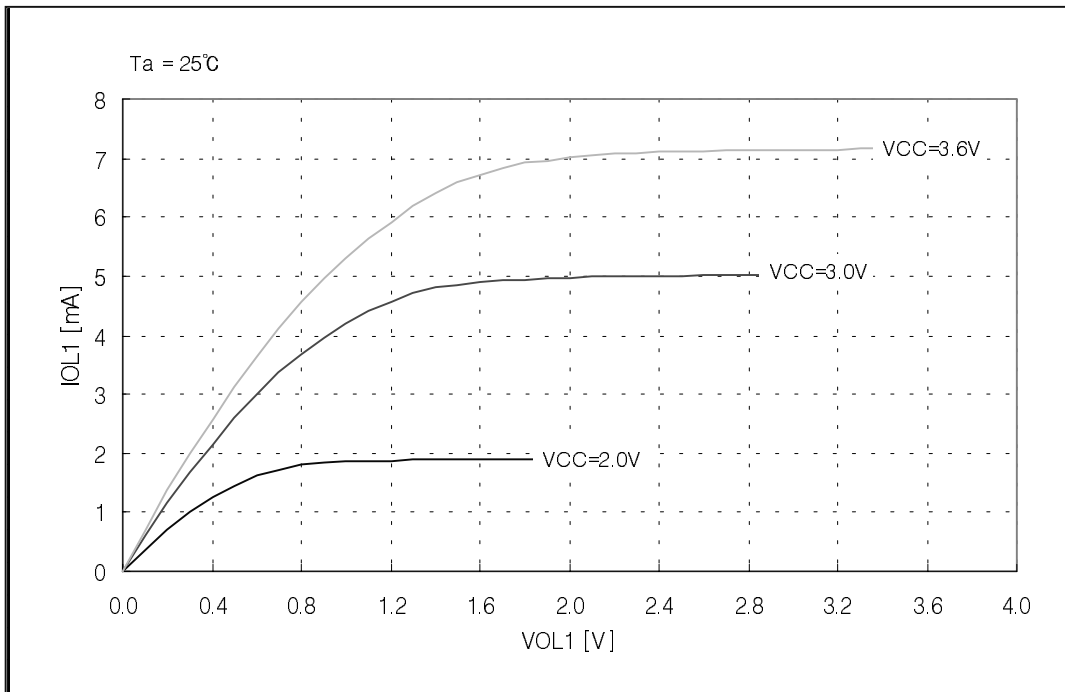

Fig 2-6. IOL1 vs VOL1 Graph (REMOUT Port)
*2 Refer to < Fig.2-6 I_{OL1} vs. V_{OL1} Graph >